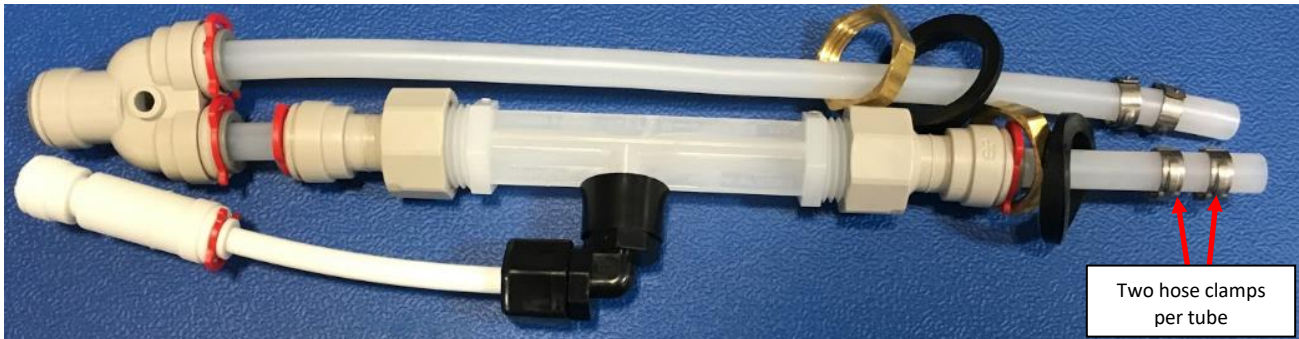

Figure H15: Hose Clamps over the both tubing.
4.1.4. Insert two (2) Hose Clamps over each tubing. See Figure H15.